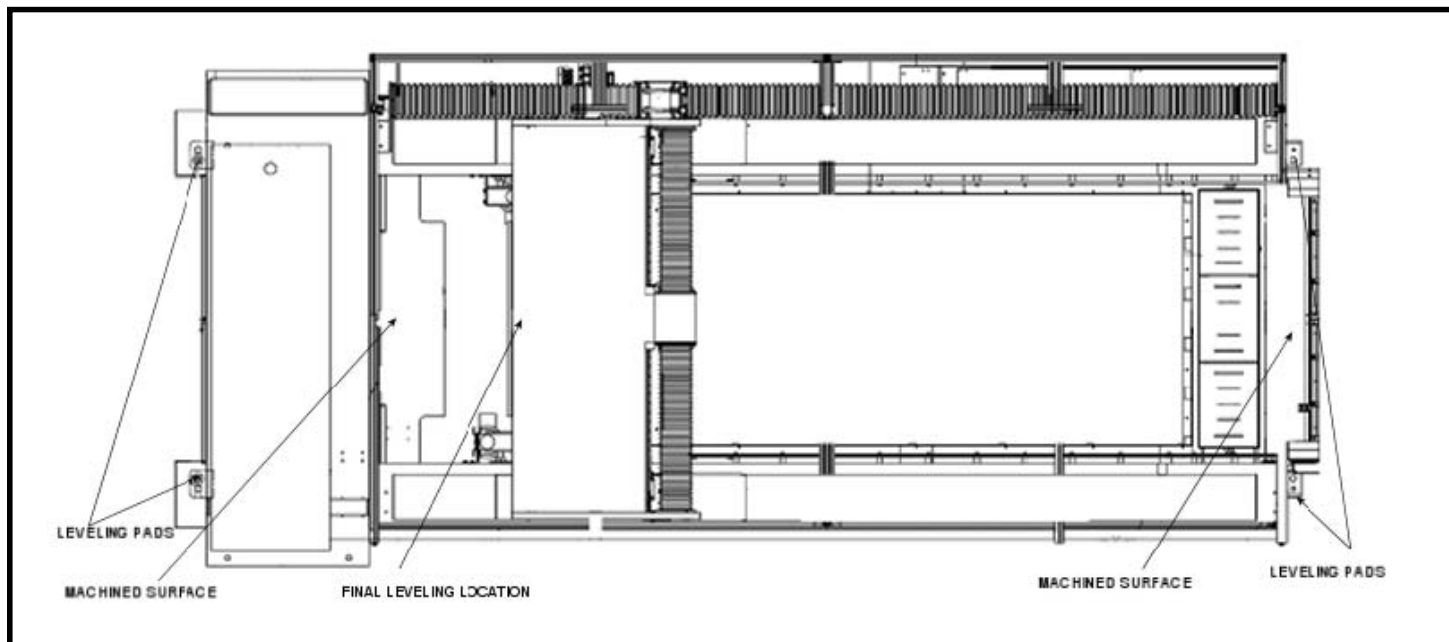

FIGURE 2-3 Main Frame Leveling Adjustments
Main frame leveling adjustments are made using jackscrews provided at the mounting pads. Figure 2-3 shows the mounting pads. The machine foot mounting pads are located on the outside surface of the main frame in the four corners.
1. To check cross-leveling, place a precision level on machined pads on each end of main frame. For preliminary leveling, a level with .004"/ft. precision is sufficient (0.33 mm per meter). See Figures 2-3 and 2-4. Lift machine with jackscrews and shim under mounting feet (shims are provided).